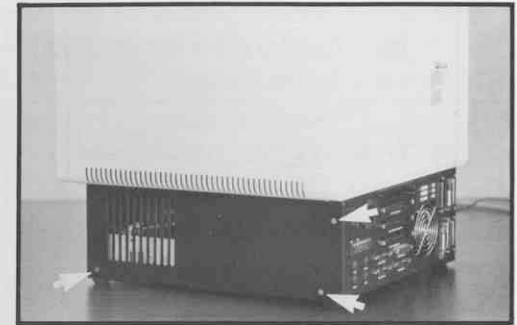

Figure 1 Phillips Screws
- 1.4 Locate three Phillips screws on each side of the workstation as shown in Figure 1. Remove the screws.